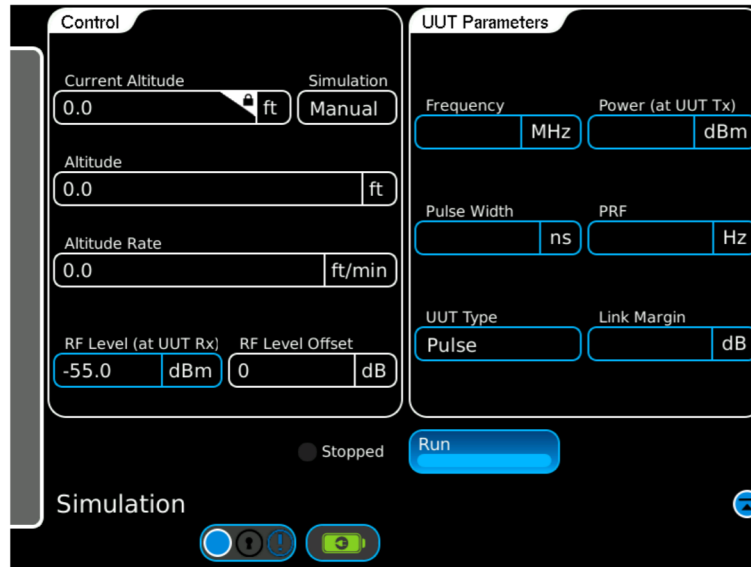

Figure 2-2 Simulation Screen
8. Ensure **Control – Simulation** is set to **Manual**. See Figure 2-2.
9. Set **Control – Altitude** to 100 ft. See Figure 2-2.
10. Press the **Run** button to start the altitude simulation. See Figure 2-2.
9. Ensure **Control – Simulation** is set to **Manual**. See Figure 2-2.
10. Set **Control – Altitude** to 100 ft. See Figure 2-2.
11. Press the **Run** button to start the altitude simulation. See Figure 2-2.